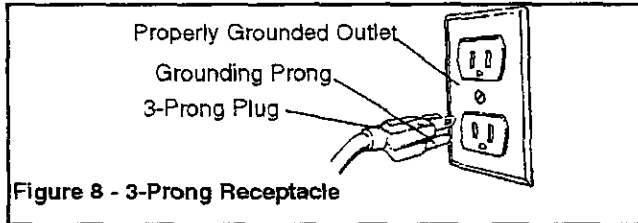

Figure 8 - 3-Prong Receptacle
Refer to Figures 8, 9 and 10, page 5.
- This tool is equipped with an approved 3-conductor cord rated at 150V and a 3-prong grounding type plug (Figure 8) for your protection against shock hazards.
- Grounding plug should be plugged directly into a properly installed and grounded 3-prong grounding-type receptacle, as shown (Figure 8).